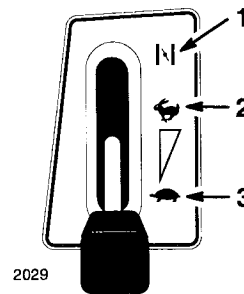

Figure 10
5. Move the throttle lever to "CHOKE" (Fig. 10).
7. After the engine starts, slowly move the throttle lever to "FAST" (Fig. 10). If the engine stalls or hesitates, move the throttle lever back to "CHOKE" for a few seconds. Then move the throttle lever to "FAST." Repeat this as required.
1. Move the throttle lever to "SLOW" (Fig. 10).